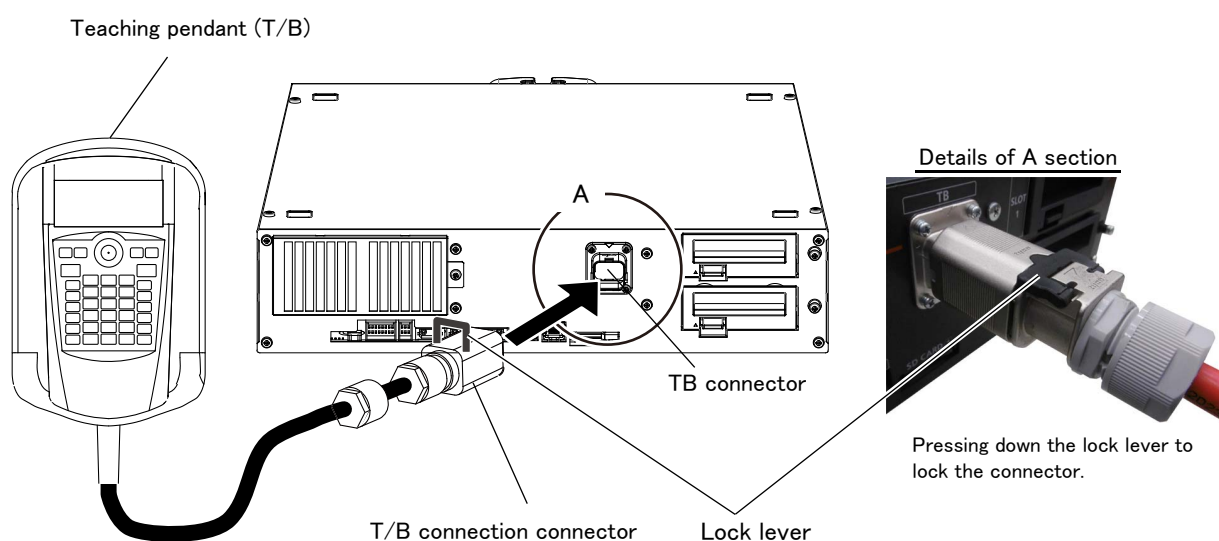

Fig. 2-15 : Installing the T/B
- 2) Refer to Fig. 2-15 and connect T/B connector to the robot controller.